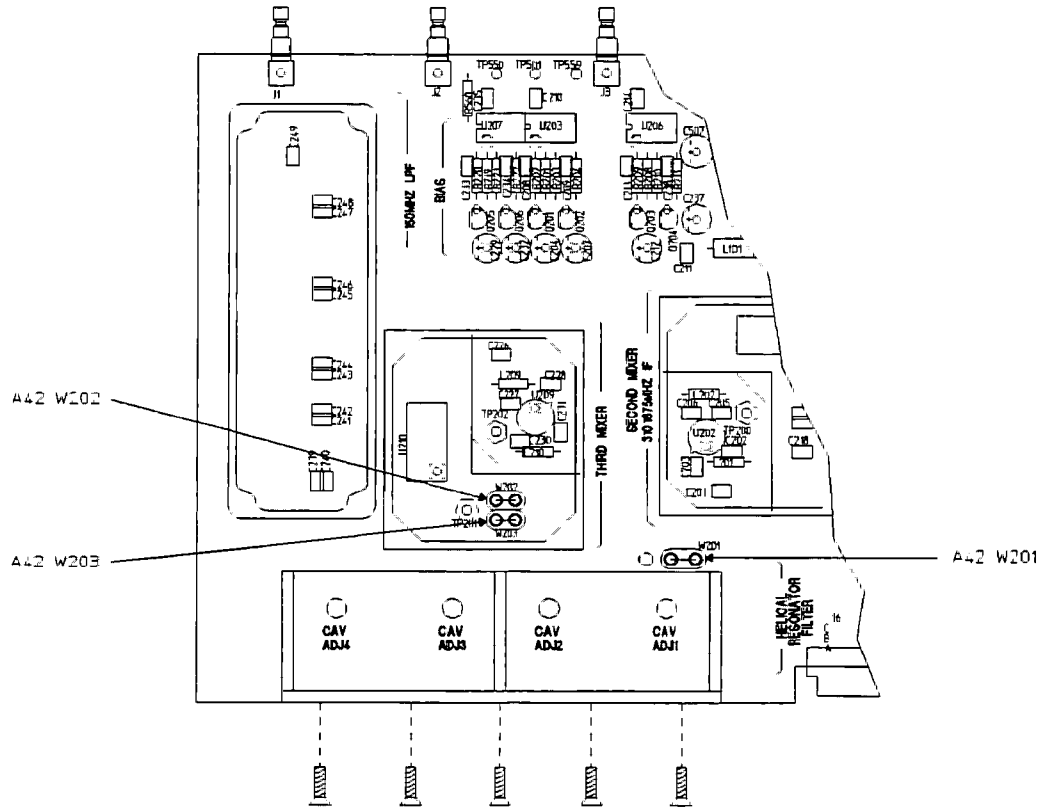

Figure 1-13. A42 Source Conversion Component Locator
2. Remove the shield can covering A42 W202 and W203 (see figure 1-13). Move A42 W201, W202, and W203 to their test positions.